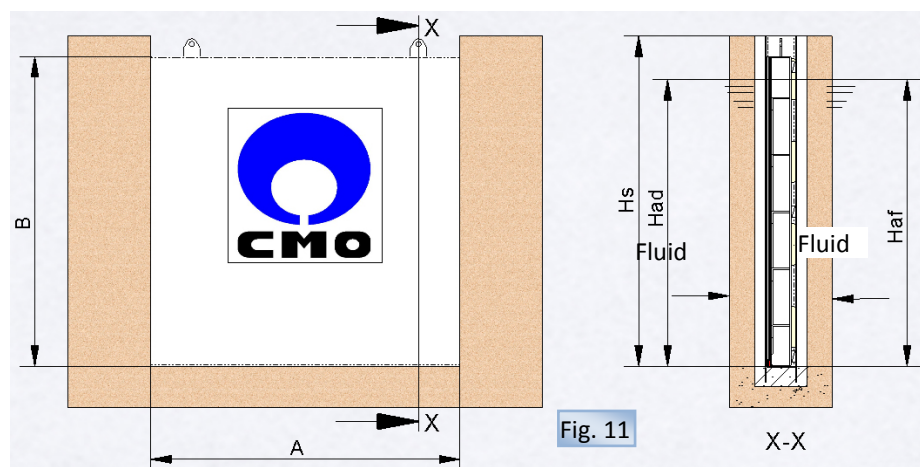
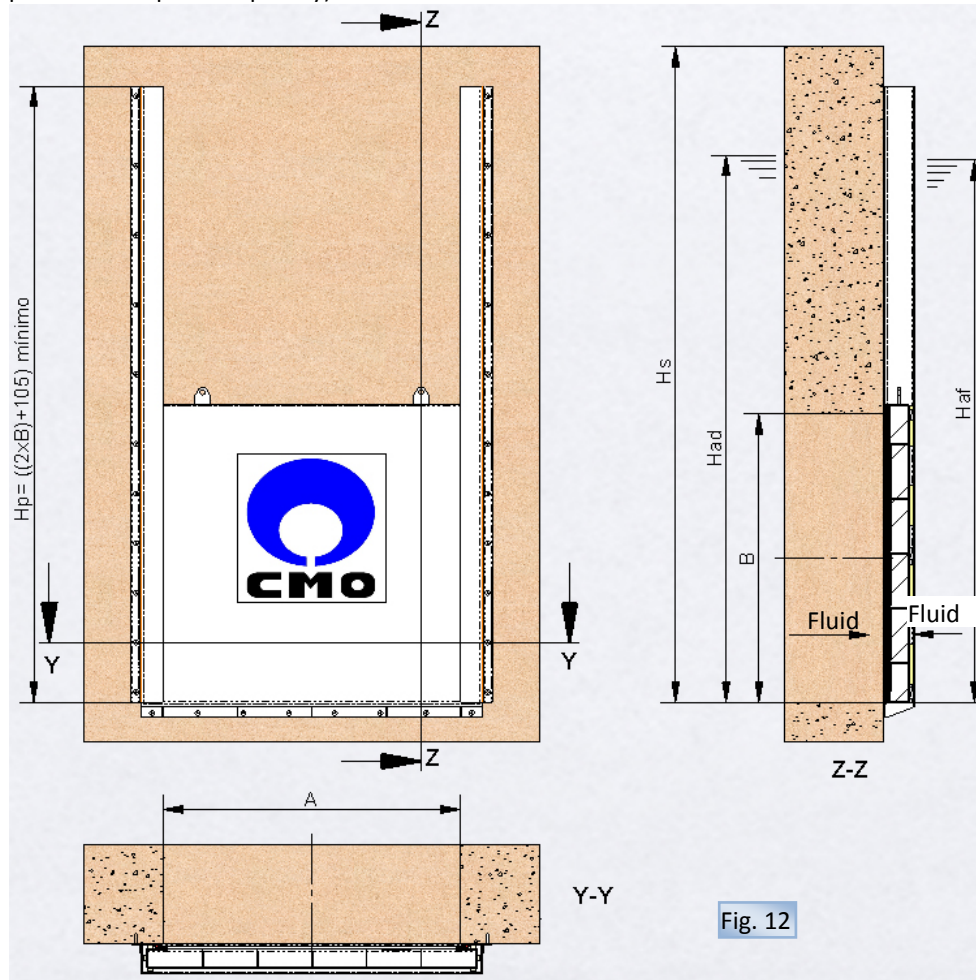

Fig. 11
Fig. 12
In order to define an **AT** cofferdam gate, we need to know the width and height of the channel or conduit, the fluid direction and the fluid load on each side of the gate. It is also necessary to know the height of the floor (**Hs**) and whether it is a 3-sided seal (**fig. 11**) or 4-sided seal (**fig. 12**).
Below is a description of each level (**fig. 11 and 12**).
- **Level A:** This is used to define the width of the channel (fig 11) or conduit (fig. 12).
- **Level B:** This is used to define the height of the gate (fig 11) or conduit (fig. 12).